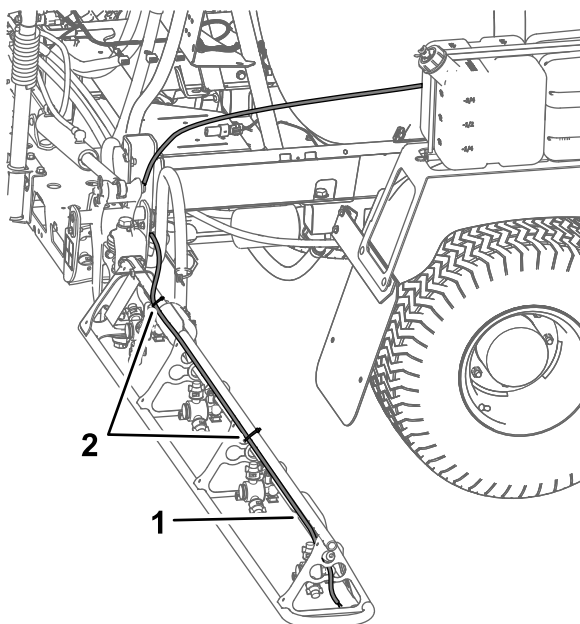

Figure 13
- A. On the right boom, install the foam tube along the rear side of the upper support pole (Figure 13).